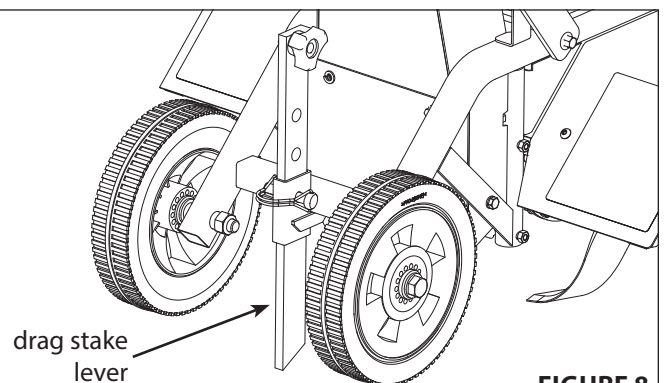

FIGURE 8
*Tilling depth is controlled by the height of the depth regulator lever. **SEE FIGURE 8***